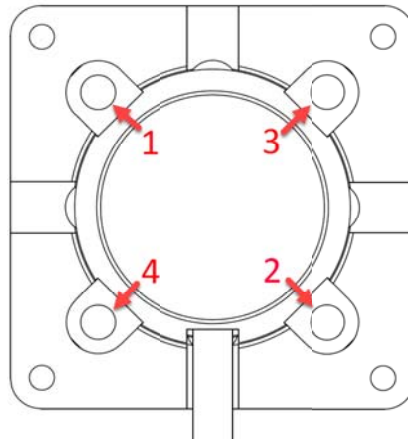

Figure 1
3. Use the pattern shown in Figure 1 to begin tightening the screws: